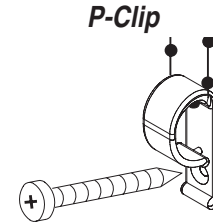

Figure 15
- ㉕ Draper Bottom Up Shades with clutch operator do not comply with WMCA/ANSI Standard A100.1-2012. They come with a standard cord tension device ("P-Clip") pre-attached to bead chain (see Fig. 15). This device must be attached to wall, jamb or sill so that the bead chain is held taut enough that it cannot be pulled away from the wall. Use a single screw to attach to mounting surface.